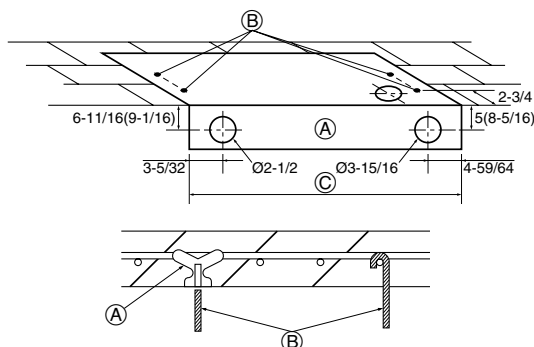

Fig. 3-3
3.2.4. Selection of suspension bolts and tubing positions (Fig. 3-3)